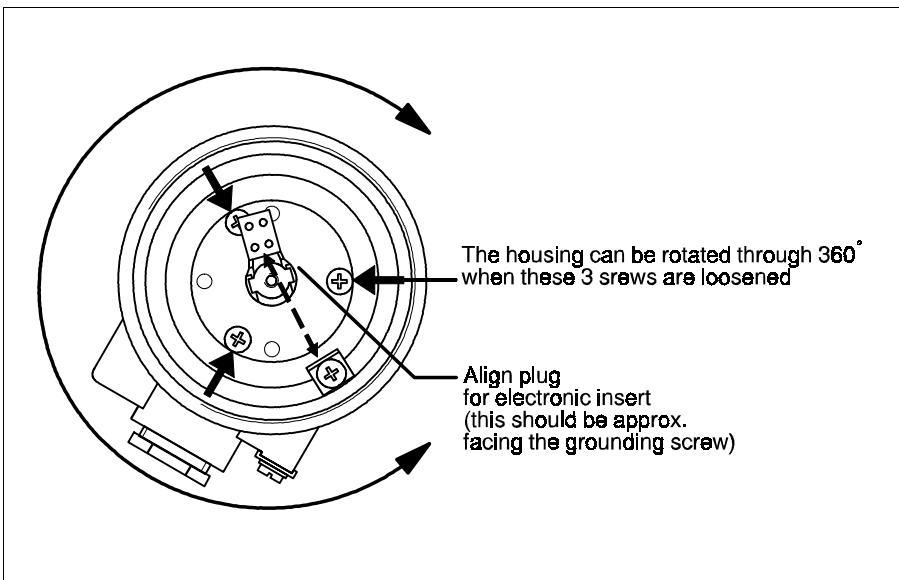

Fig. 9
- Slightly loosen the 3 screws in the housing, see Fig. 9.